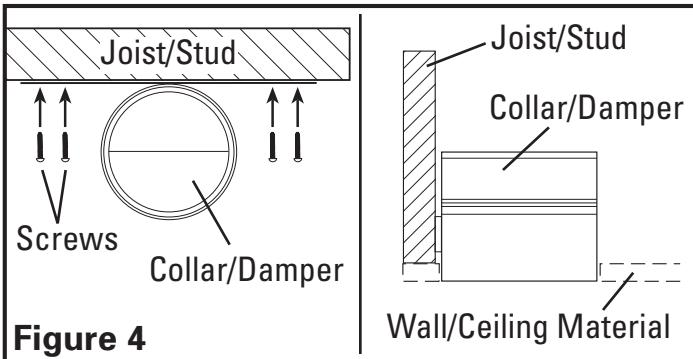

Figure 4
- Install the collar/damper in the selected location using the provided 1" wood screws through the mounting strap. The mounting height is determined by the thickness of the final wall/ceiling material. Ensure that the edge of the collar/damper will be flush with the finished wall/ceiling material (**Figure 4**).
- Position the collar/damper in the previously cut hole so that it is flush with the finished ceiling and secure to the joist/stud using the provided 1" wood screws through the mounting strap (**Figure 4**).